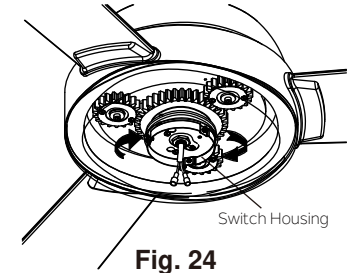

Fig. 24
Step 2. Place the two slot holes on the switch housing over the two (2) screws previously loosened from the mounting plate. Rotate the switch housing until it locks in place at the narrowed end of the key holes. (Fig. 24)